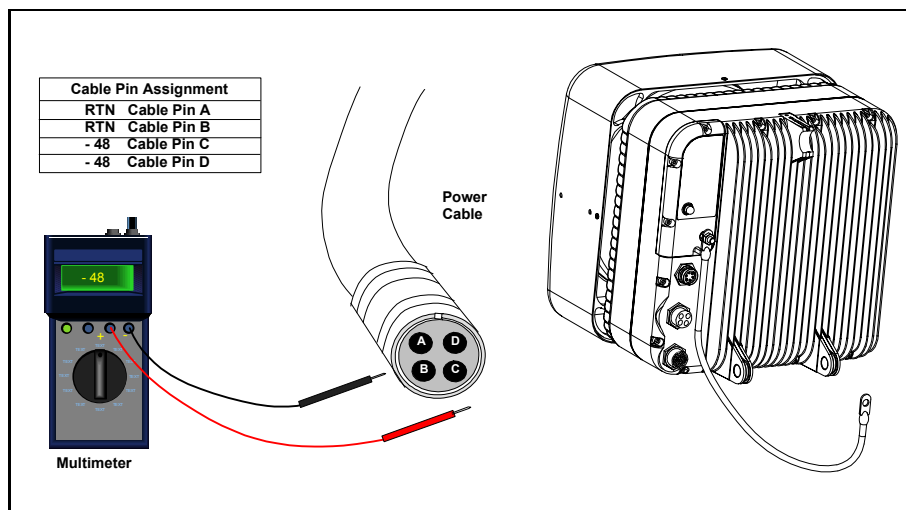

Figure 2-3. Power Test Setup
- 5 Connect a black test lead from the **negative** input of the multimeter to pin **B** on the IFU power cable (see Figure 2-3).